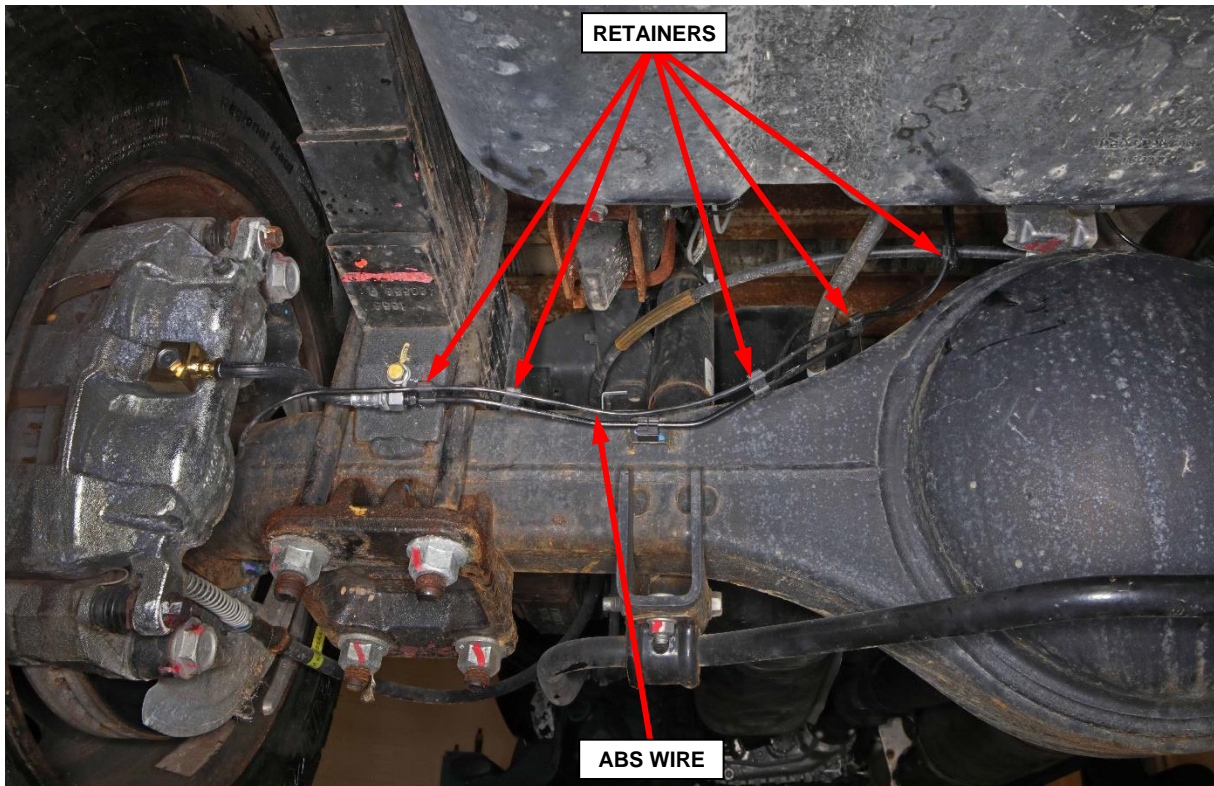

Figure 4 – ABS Wire
3. If equipped; release the Antilock Brake System (ABS) wire retainers from the rear brake fluid tube (Figure 4).
6. If equipped; attach the ABS wire retainers to the rear brake fluid tube (Figure 4).